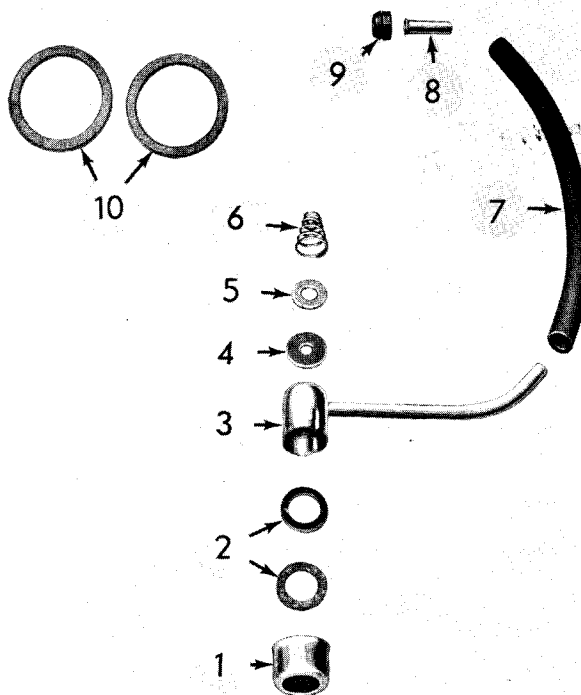
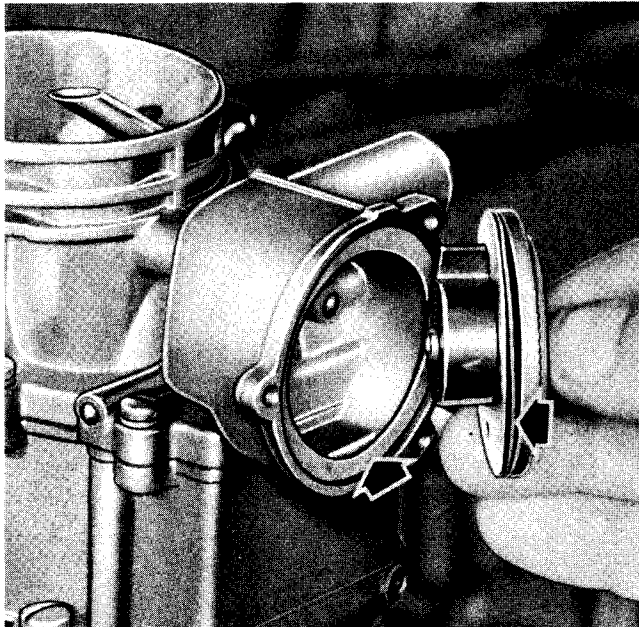
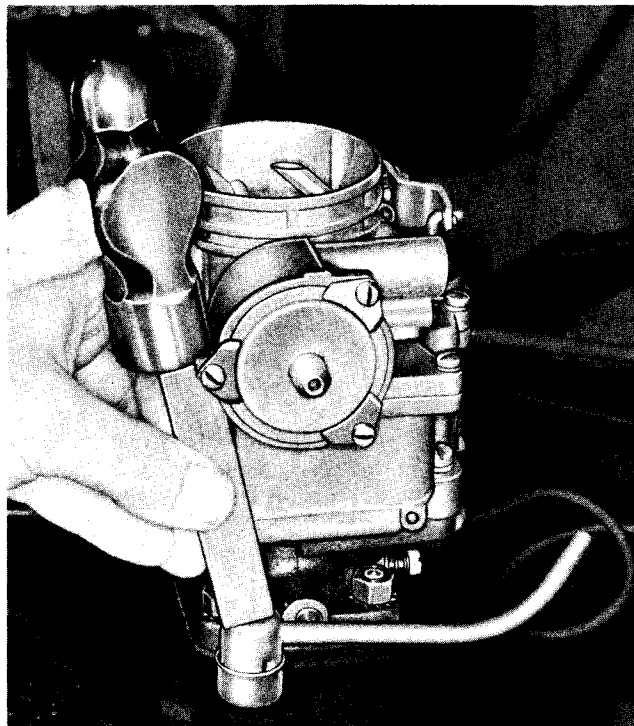
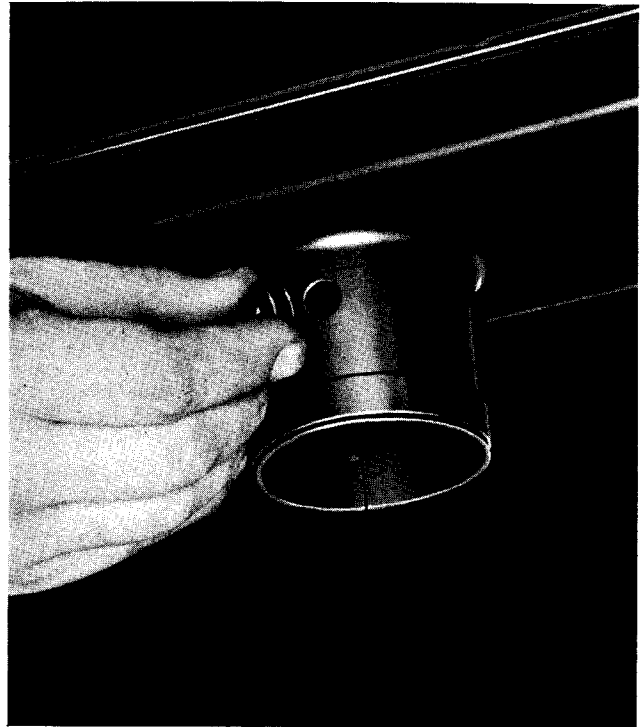

FIG. 3
FIG. 4
FIG. 5
FIG. 8
11. Two gaskets (10, Fig. 3), one on each side of the choke cover heat baffle, are to be used on the 6-111 carburetor. Install one gasket in the cover recess of the choke housing. Install the other gasket between the cover and the heat baffle (see Fig. 4).
14. Install the shroud base (1, Fig. 3) on the choke heater tube with the larger opening up and bottom of the shroud base on the intake manifold.
15. Install the two asbestos gaskets (2) in the shroud base. Be sure that gasket material does not fall into the heater tube during assembly.
16. Install the new shroud-and-pipe assembly (3). Use a wooden block and tap the shroud-and-pipe assembly down over the heater tube and seat it securely on the asbestos gaskets in the shroud base (see Fig. 5).
17. Insert the lower end of the manifold-to-choke tube-and-loom assembly in the small end of the spring (6, Fig. 3). Slide the spring up the tube by turning it counter-clockwise. Slip the seal washer (5) on the tube next to the spring and install the Silicone seal (4) on the tube next to the seal washer.
20. Using liquid soap as a lubricant, insert the grommet (9, Fig. 3) into the $7/16$ " hole with the external chamfer toward the inside of the air cleaner elbow (see Fig. 8).